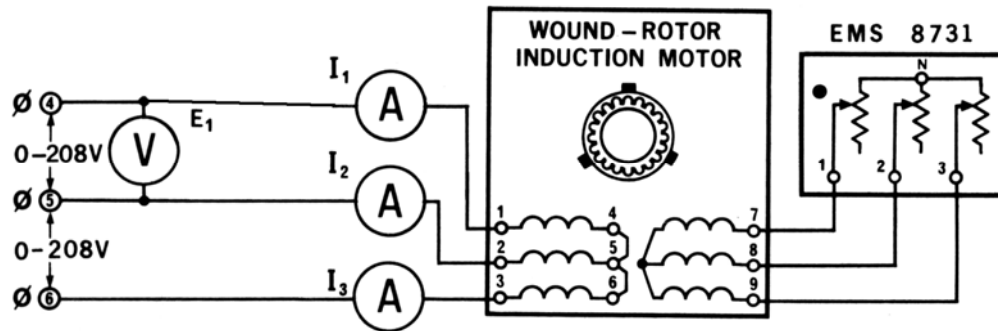

Figure 13-4
- 6) Construct the circuit shown in Figure 13-4. Note that three stator windings are connected to the variable 3-phase output of the PS (terminals 4, 5, and 6) and the rotor windings are connected to speed control rheostat.